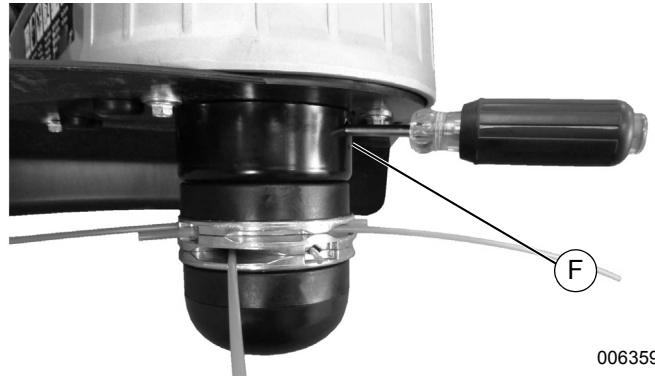

Figure 4-3. Quick Lock Head Assembly
2. Place Mow-Ball® bolt (D) into the hex cavity of Mow-Ball (E).
3. See Figure 4-3. Align the hole in the anti wrap canister with a hole in the internal housing and insert a Phillip head screwdriver through both holes (F).